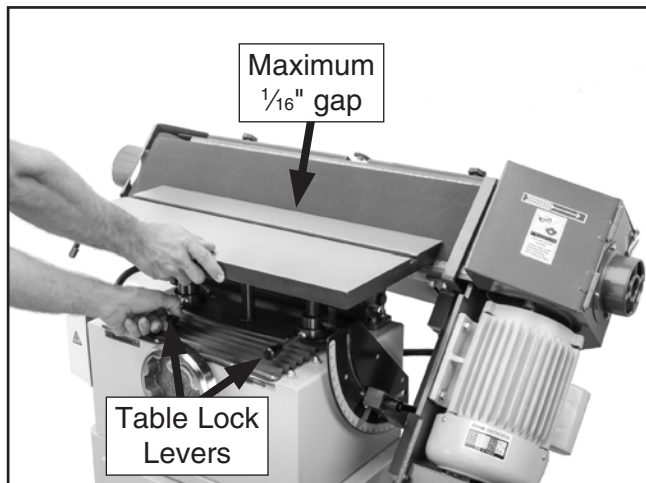

Figure 17. Horizontal table adjustment.
2. Push or pull table until there is a gap of no more than $\frac{1}{16}$ " from sanding belt, as shown in **Figure 17**.